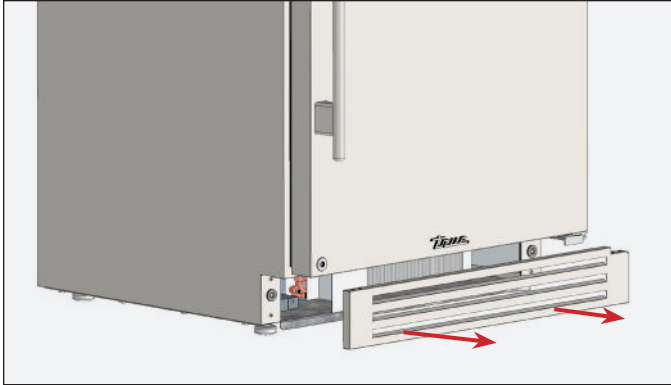

FIG. 1. Pull the kickplate off the magnets.
1. Remove the kickplate. See fig. 1.